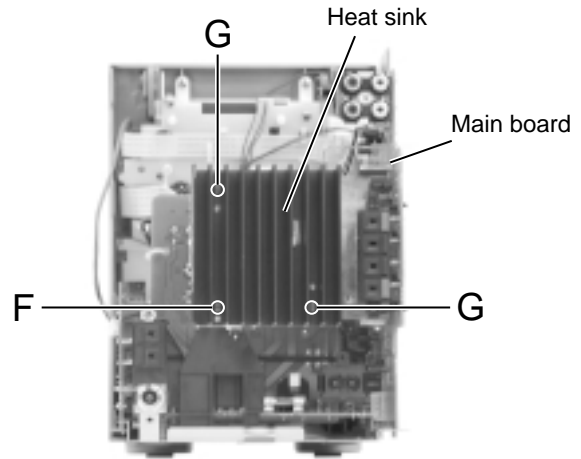

Fig.9
2. Remove the screw F attaching the heat sink on the back of the body (Refer to Fig.9).